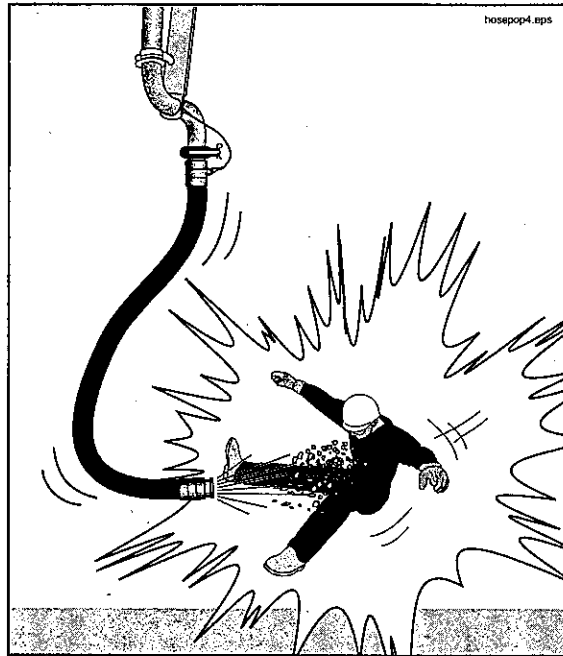

Figure 70
- 16.11** **▲ WARNING!** Do not let the concrete level in the hopper become low! If air is sucked into the material cylinders, the pump will compress the air. Compressed air always poses a hazard as it is expelled from the hopper or the delivery pipeline (Figure 70). If air is taken into the material cylinders, take the following steps to minimize the hazard:
3. Persons standing at the discharge end or near the delivery system must be warned to move away from the discharge until all of the air has been purged. Warn them to stay back at least fifty (50) feet.
- 16.12** **▲ WARNING!** When initially priming the delivery system, when restarting after moving, or when restarting after adding or removing hoses, warn everyone to stay away from the discharge until concrete runs steadily and there is no movement of the delivery system. The distance that personnel should stay back from the discharge is at least fifty (50) feet (Figure 70). Air will be in the line when first starting, when restarting after moving, and after the line has been taken apart or opened for any reason.